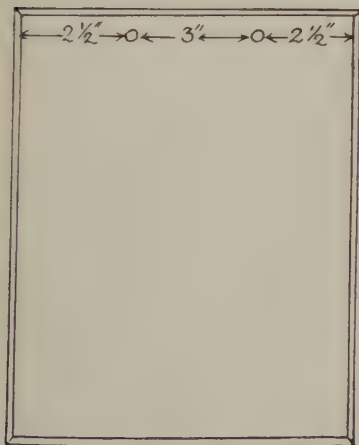

FIG. 87—DIAGRAM OF HOLES FOR CORD HANGER
10. Measure off along top edge of board $2\frac{1}{2}$ " in from each side edge and $\frac{3}{4}$ " down from top of board and punch two $\frac{1}{8}$ " round holes—punch from front of board through to back. (Fig. 87.)